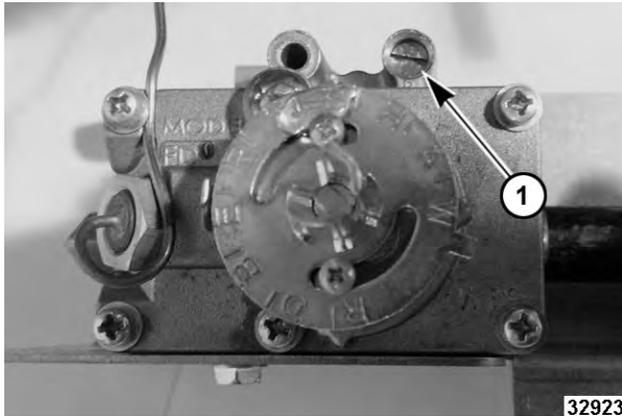

Fig. 119
5. With a screwdriver, turn by-pass flame adjustment screw (1, Fig. 119) counterclockwise to increase by-pass flame or clockwise to decrease flame until the entire burner has 1/8" min. to 1/4" max. stable flame on each port.